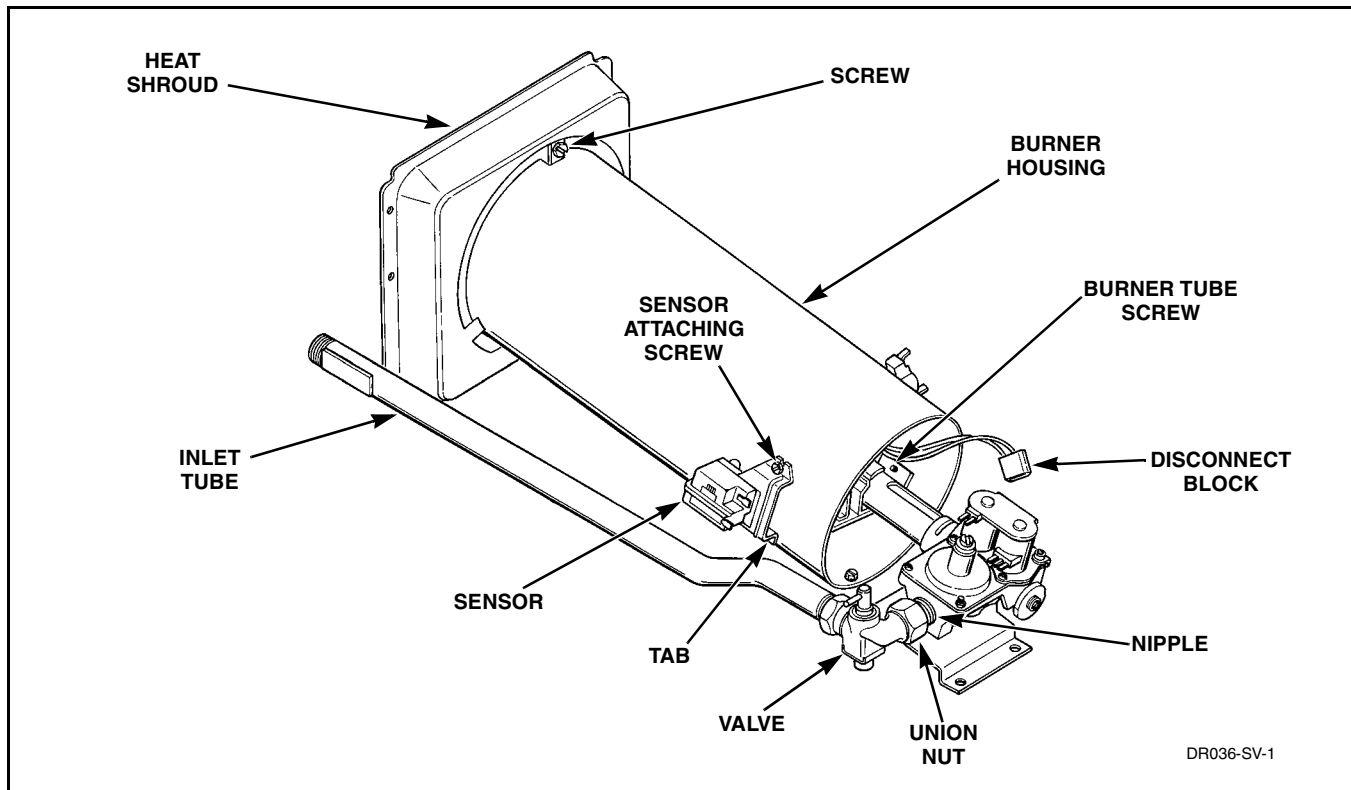
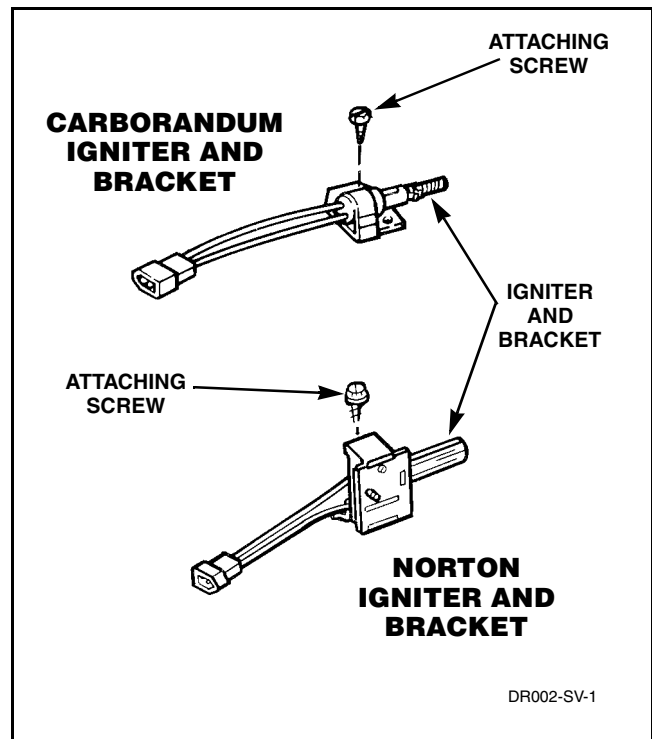

Figure 19
Figure 21
- (4) Close gas shut-off valve, disconnect igniter wires at disconnect blocks, sensor wires from sensor terminals, and wires from gas valve coils at the quick disconnect blocks. Refer to *Figure 19*.
- (5) Disconnect gas shut-off valve from gas valve at the union nut. Refer to *Figure 19*.
- (6) Remove three screws holding valve and mounting bracket to base. Refer to *Figure 19*.
- (7) Lift gas valve and mounting bracket from base. Refer to *Figure 19*.
- (2) Gently move burner tube toward rear of dryer to disengage tab from slot on left side of burner housing. Refer to *Figure 19*.
- (3) Carefully rotate burner tube and igniter **counterclockwise** so tab is at 8 o'clock position.
- (4) Move air shutter end of burner tube slightly to right and **CAREFULLY** remove burner tube and igniter assembly out through front of dryer.
- (5) Remove screw holding the igniter and bracket to the burner tube and remove igniter and bracket. Refer to *Figure 21*.
To Test Igniter: (Refer to *Figure 21*)
1. Disconnect igniter wires at disconnect block. Refer to *Figure 19*.
c. Sensor, Figure 19
- (4) Remove wires from sensor terminals. Refer to *Figure 19*.
- (5) Remove screw holding sensor to burner housing. Refer to *Figure 19*.
1. Remove wires from sensor terminals. Refer to *Figure 19*.
- d. Disconnect igniter wires at disconnect blocks, sensor wires from sensor terminals, and wires from gas valve coils at the quick disconnect blocks. Refer to *Figure 19*.
- f. Gently move burner tube toward rear of dryer to disengage tab from slot on left side of burner housing. Refer to *Figure 19*.
- i. Remove screw holding burner housing to heat shroud. Refer to *Figure 19*.